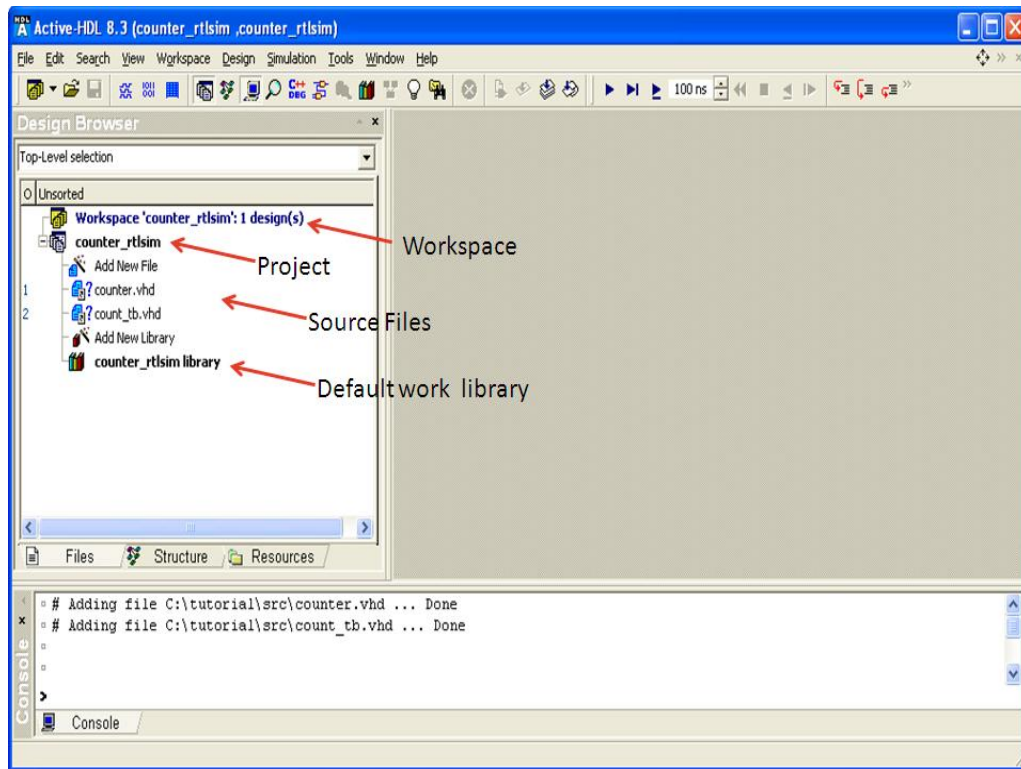

Figure 10-6: Active-HDL Simulator Interface
5. The Active-HDL simulator is launched now and the workspace, simulation project, work library are automatically created as per the simulation wizard inputs. The simulation source files also added under simulation project. See Figure 10-6.